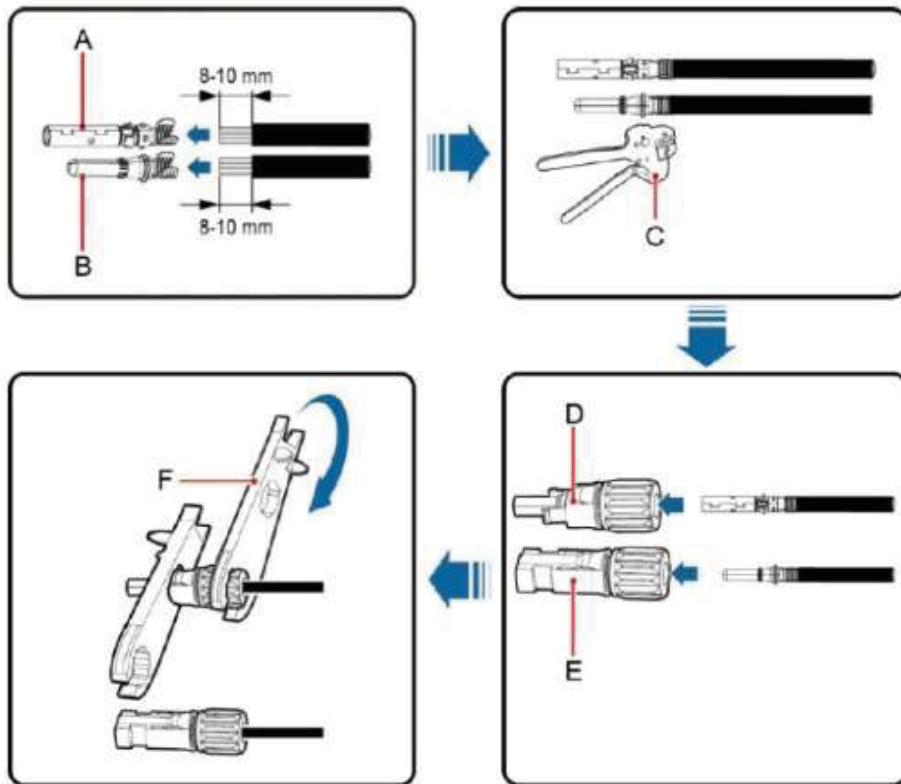

Figure 4.15 Connection of MC4 DC connector and PV string
- (1) Lighting, short-circuit and other protection measures which meet the local electrical safety laws and regulations are needed before the connect PV strings to inverter
- (2) Connect the output cables of solar modules to the DC connector as figure 4.15 shows. Loosen the nut of connector and remove the isolation layer of the DC cable for about 15mm. Insert it into the connector and press until hear the lock sound. Finally tighten the nut to a torque of 2.5-3 Nm. The wiring of negative pole is the same as that of the positive pole. Ensure the poles of solar modules are well connected with the connectors;